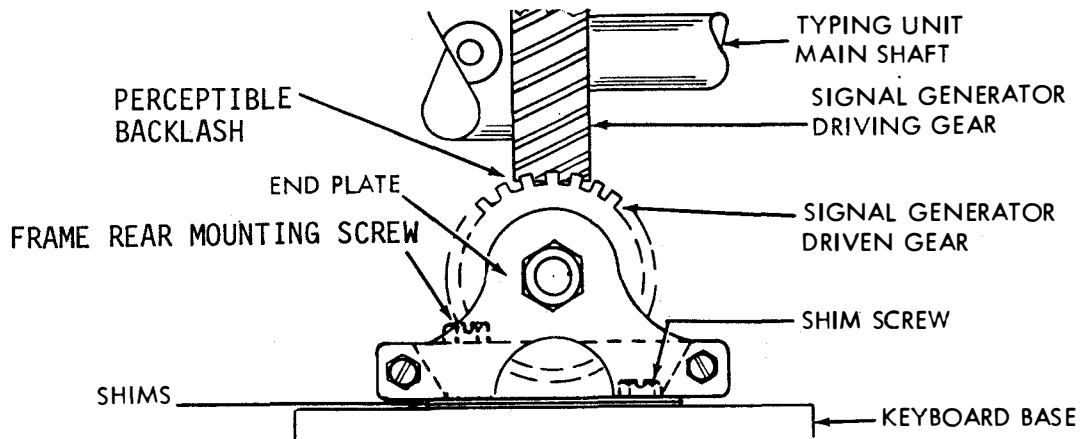

Figure 6-136. Signal Generator Frame, Rear View
(18) Signal Generator Frame. Adjust as follows:
- (a) Refer to Figure 6-136.